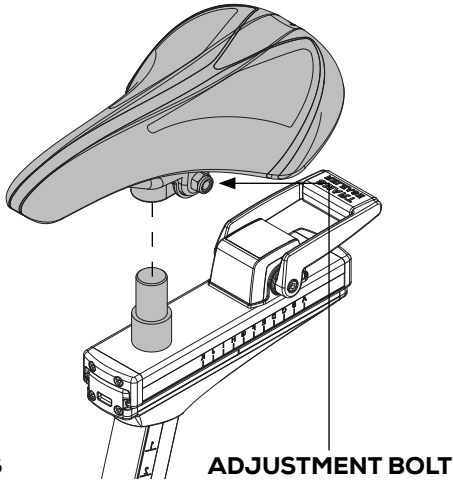

Figure 6
- 2) Press the bottleholder into the steer as shown in figure 6. Make sure that the o-rings stay in place.